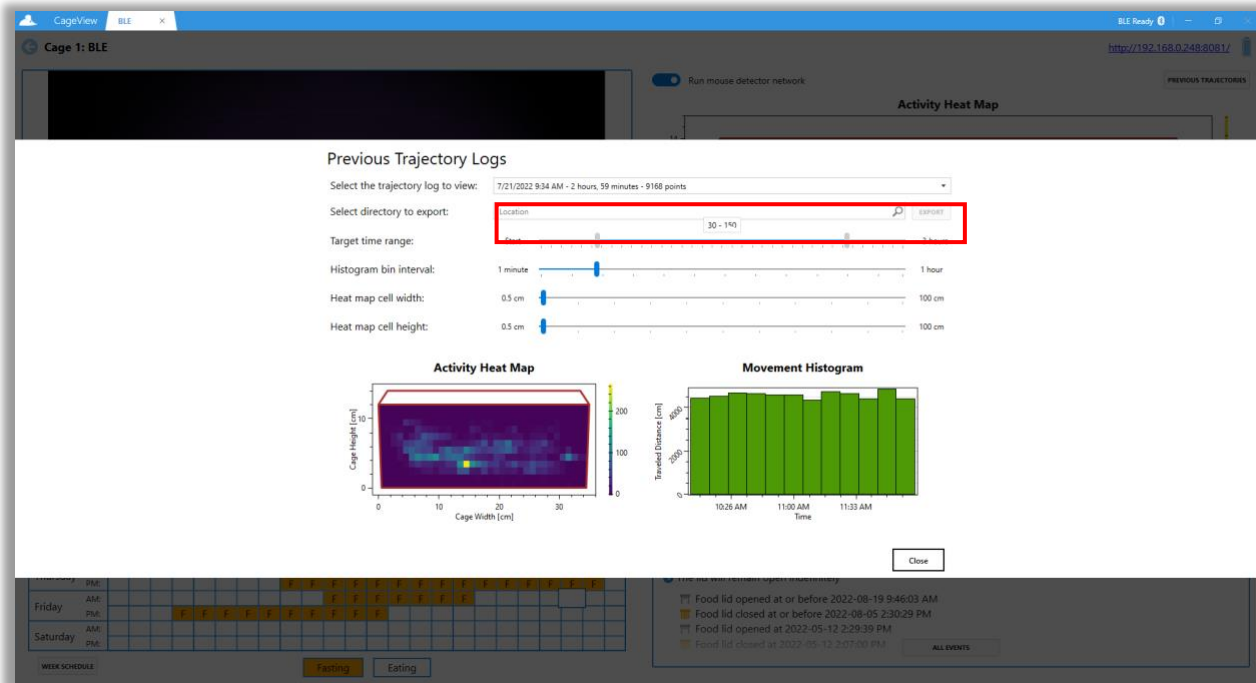

Figure 34. Customizing time range
7.2.1. To customize the target time range, drag the slider to set the preferred time range, as shown in **Figure 34**.